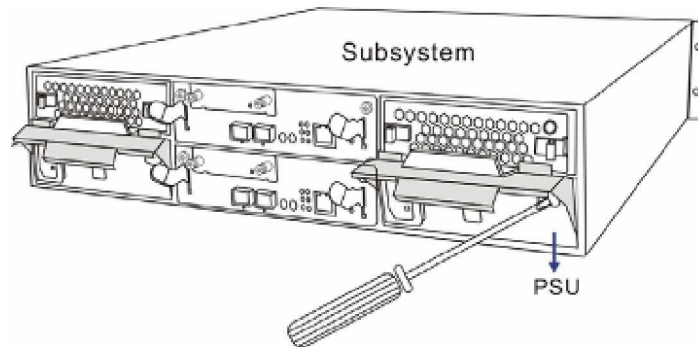

Figure 5-17: Fastening the PSU Retention Screw
Step 8. Insert the new PSU into the subsystem. Make sure the PSU handle is in its down position so that the saddle notches on the lower edges of the handle can lock on to the edge metal brackets along the chassis inner walls. Push the PSU into the slot and pull the handle upward to secure the module. (See **Figure 5-17**)
Step 9. Secure the PSU to the subsystem by inserting the retention screw into the PSU. (See **Figure 5-17**)